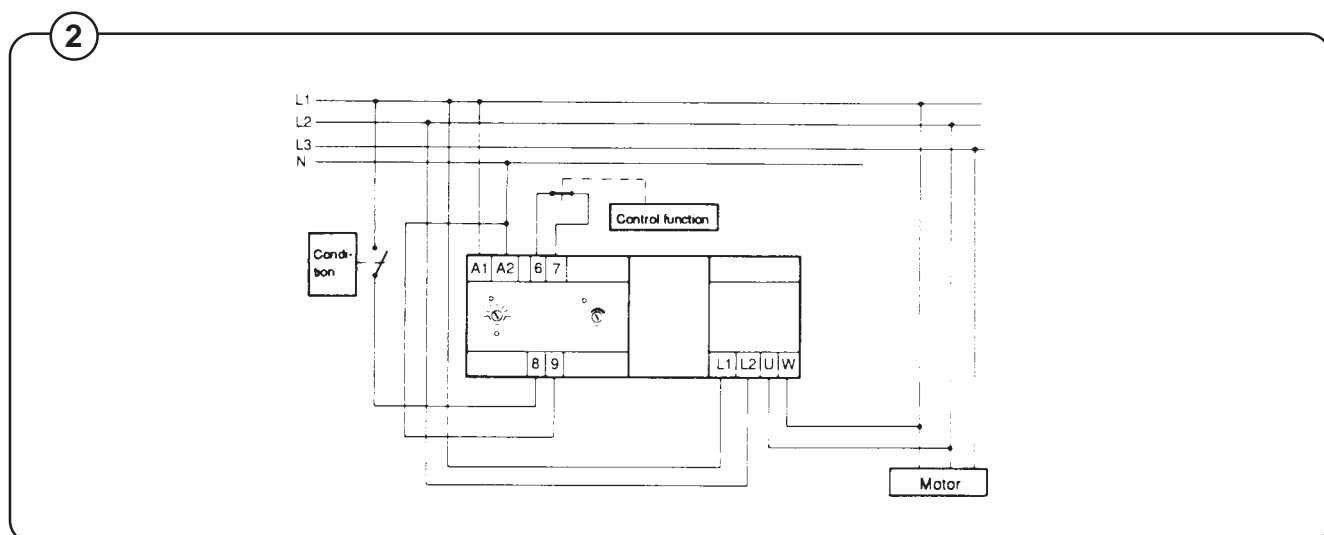

Figure 2. Engagement of the motor brake
3. Mark and loosen terminals 6-7 of motor brake, see figure 2. Then place a switch over the terminal. Check that the switch is set to OFF position.